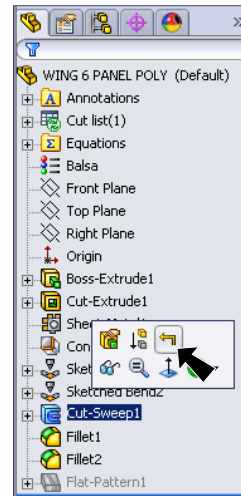

Fig. 59
Step 2. Click **Cut-Sweep1** in the Feature Manager and click **Roll Back**  from the Content toolbar, **Fig. 59**.